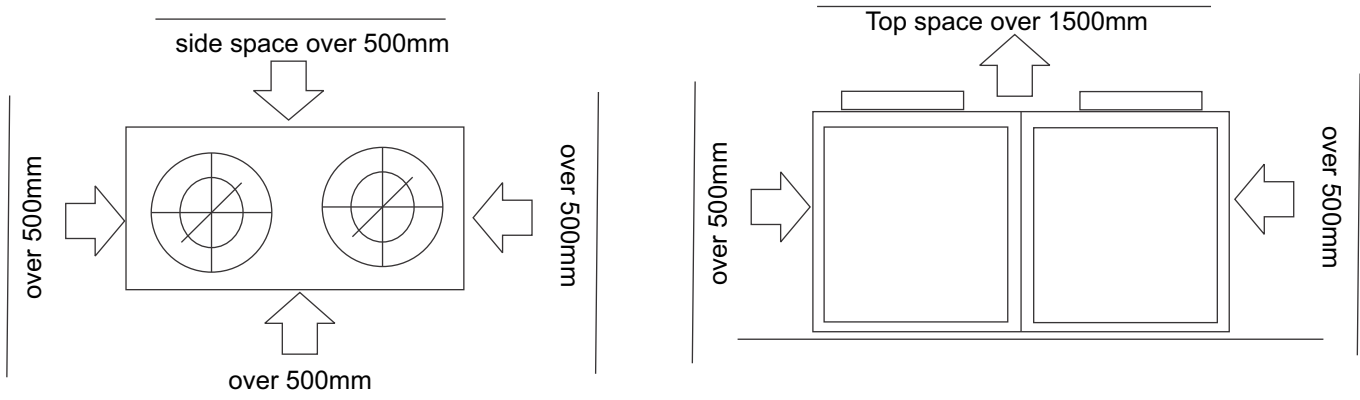

Figure 1
4. For easier and better maintenance and troubleshooting, no obstacles around the unit should be closer than 500mm. And no obstructions within 2m, vertically, from the unit for air ventilation. (See Figure 1)